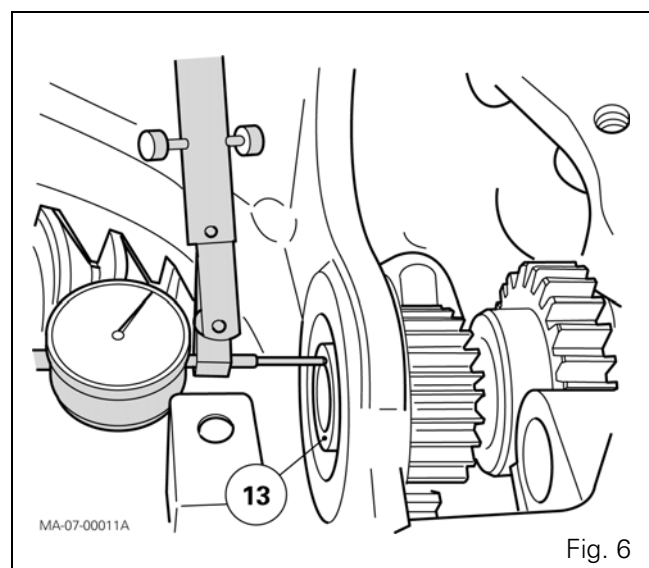

Fig. 6
40. Place the dial gauge feeler pin at the end of the pinion (13) (Fig. 6).
41. Pull on the pinion while turning it alternately to the left and right in order to compress the deflector (15) and correctly seat the bearing cone (7) in the bearing cup (8).
43. Push on the pinion while turning it alternately to the left and right in order to seat the bearing cone (4) correctly in the bearing cup (3).
45. Remove the cover (10), take out the bearing cup (8) and the piston (9).
46. Fit the shims (11) selected in operation 44 in the cover (10).